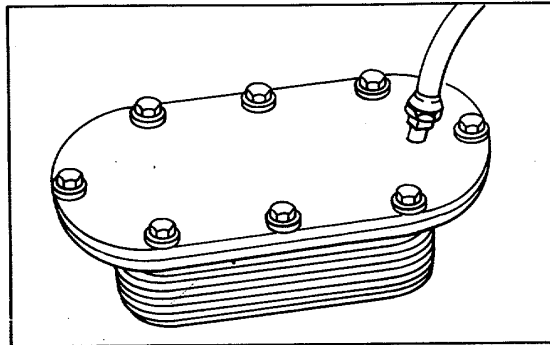

Figure 1. Preparing Oil Cooler Core for Pressure Test
1. Make a suitable plate and attach it to the flanged side of the cooler core. Use a gasket made from rubber to assure a tight seal. Drill and tap the plate to permit an air hose fitting to be attached at the inlet side of the core (Fig. 1).